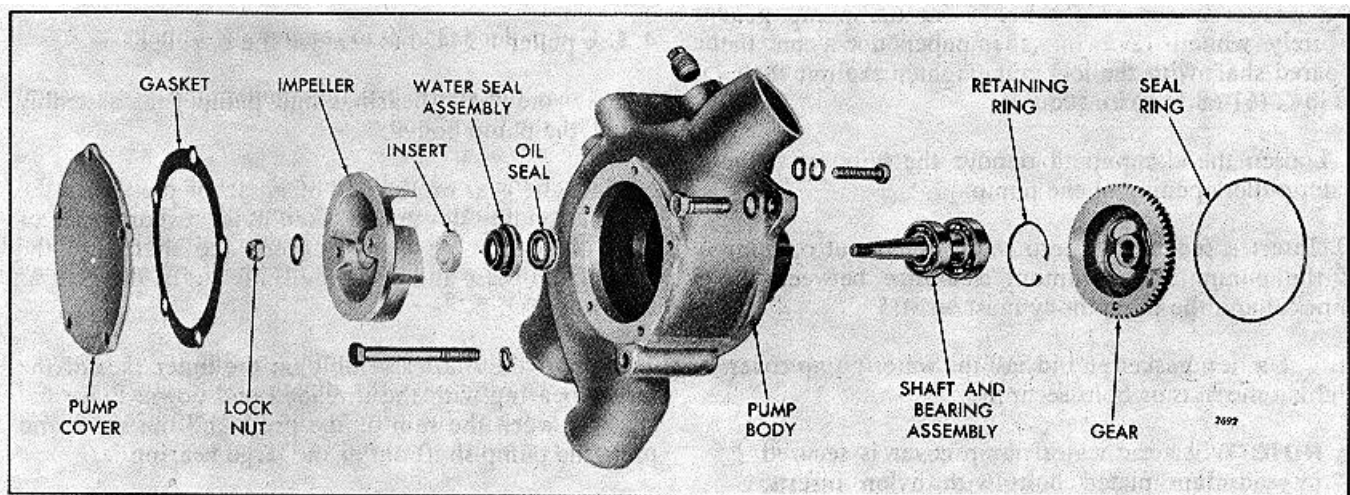

FIG. 6 - Water Pump Details and Relative Location of Parts
1. Remove the pump cover and gasket (Fig. 6).
6. Make sure the mating Surfaces of the water seal and the ceramic insert (Fig. 6) are free of dirt, metal particles and oil film.